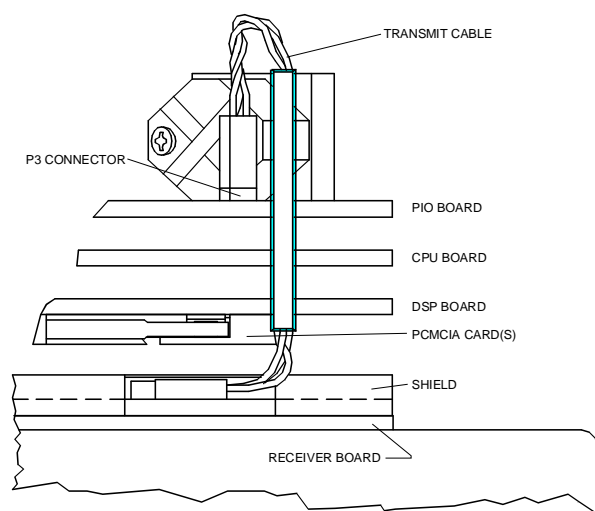

Figure 20. Transmit Cable
- c. Note the orientation of the transmit cable connector as it is plugged into the PIO board and to the Receiver board (see Figure 20).